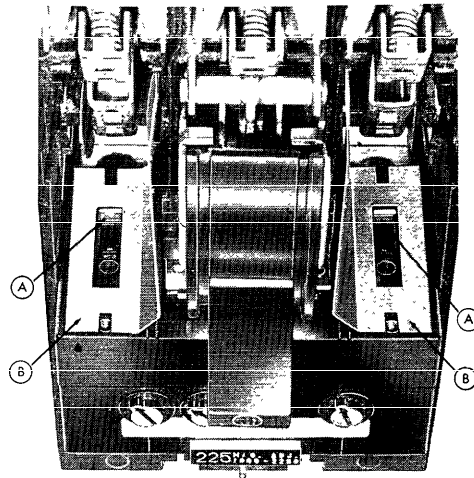
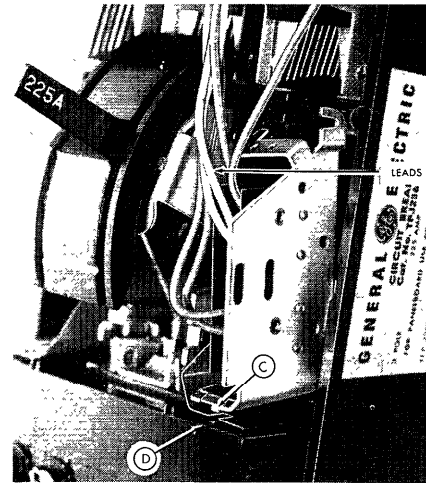

Fig. 2. Top, front view of open breaker
Fig. 3
3. Install insulation barrier B (Fig. 2). Bottom of long slot in barrier should be slipped over small boss A on trip unit case. Insulation must be between accessory and operating mechanism of breaker.
4. Insert notch C into hole D (Fig. 3) on top of trip unit. Press accessory into breaker frame. Be sure U-shape indentation in rear of accessory's base fits around trip unit's small boss (item A in Fig. 2).